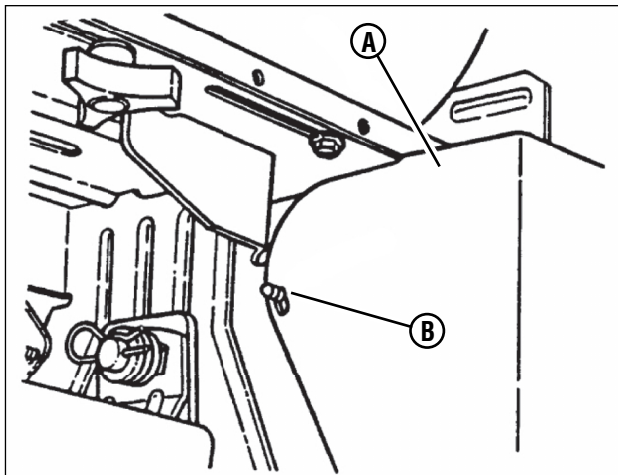

Figure 48: Removing the battery cover
1. Carefully pull each side of the battery cover **(A, Figure 48)** away from the ratchet fasteners **(B)** and remove the cover.
5. Reinstall the battery cover **(A, Figure 48)**.
12. Reinstall the battery cover (**A, Figure 48**).